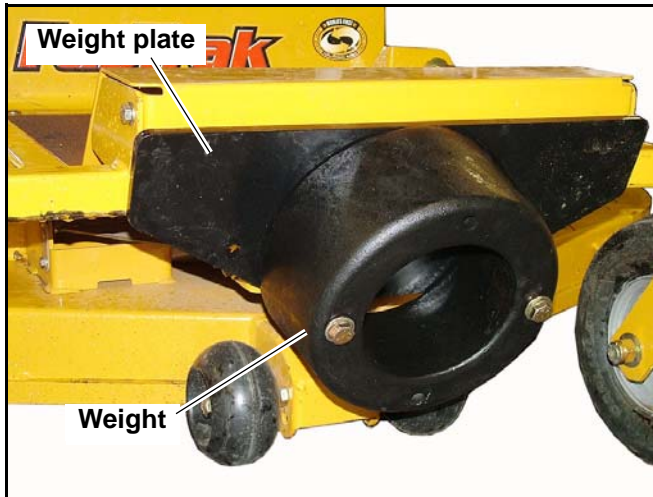

Figure 3-22
10. Attach the weight plate and weight to the tractor per Fig. 3-22
WARNING: Never engage mower deck unless both bags are installed and the hood is lowered. Also, both transfer tubes must be in place on the blower outlet and the hood assembly and the bungee cord is connected. Fig. 3-20 & Fig. 3-22